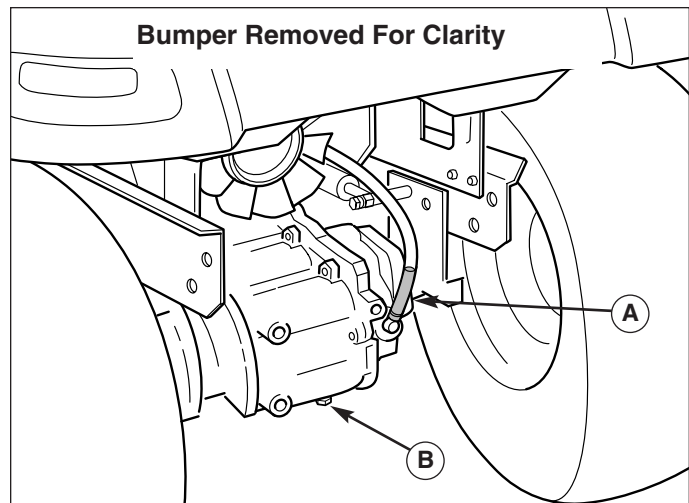

Figure 25. Transmission Fluid Check (Bumper not shown)
To check the transmission oil level observe the oil level in the plastic tube at the rear of the unit (see Figure 25).
1. Drain hydrostatic system by removing drain plug (B, Figure 25). Drain fluid into a suitable container.
4. Run tractor for several minutes until transmission is warm and check fluid level in tube (A, Figure 25).